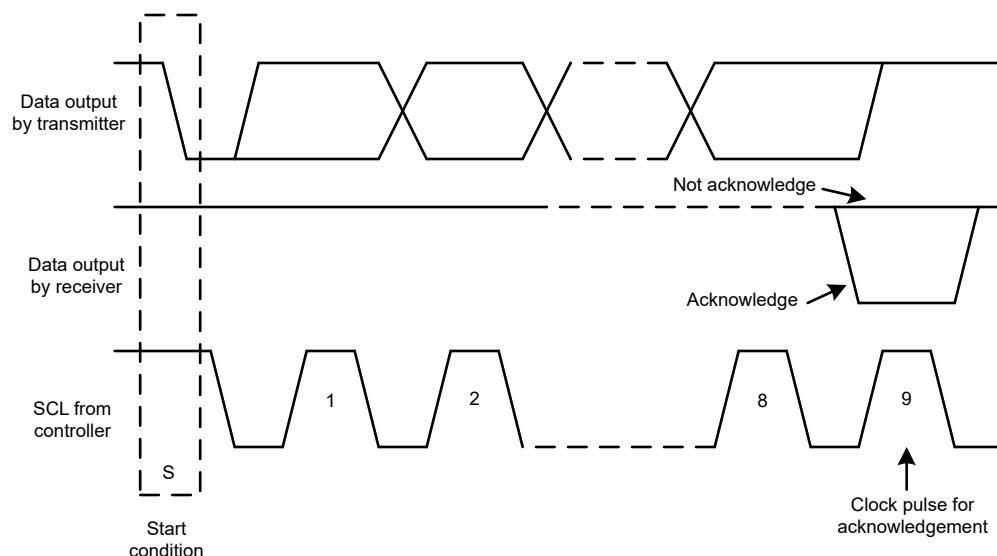
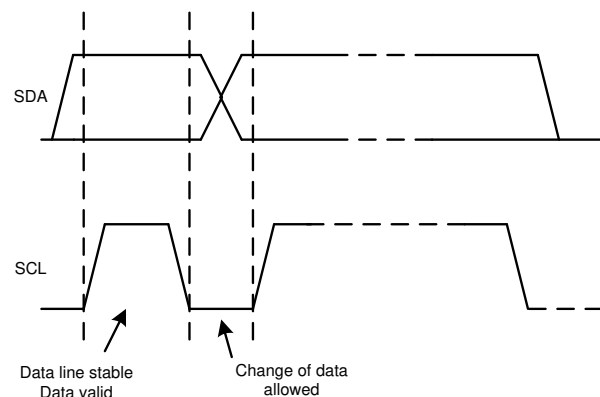

Figure 7-18. Acknowledge and Not Acknowledge on the I²C Bus
Figure 7-20. Bit Transfer on the I²C Bus
Other than specific timing signals, the I²C interface works with serial bytes. At the end of each byte, a ninth clock cycle generates and detects an acknowledge signal. An acknowledge is when the SDA line is pulled low during the high period of the ninth clock cycle. Figure 7-18 depicts a not-acknowledge, when the SDA line is left high during the high period of the ninth clock cycle.
2. The controller then generates the SCL pulses, and transmits the 7-bit address and the read/write direction bit (R/\overline{W}) on the SDA line. During all transmissions, the controller makes sure that data are valid. Figure 7-20 shows that a valid data condition requires the SDA line to be stable during the entire high period of the clock pulse. All devices recognize the address sent by the controller and compare the address to the respective internal fixed address. Only the target device with a matching address generates an acknowledge by pulling the SDA line low during the entire high period of the 9th SCL cycle (see also Figure 7-18). When the controller detects this acknowledge, the communication link with a target has been established.